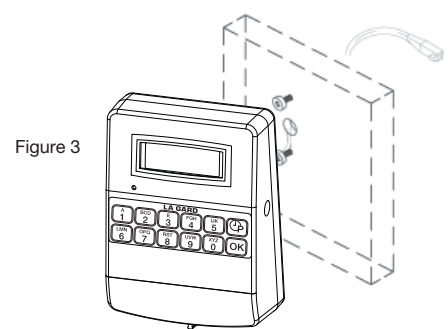

Figure 3
3. Feed the Entry Device cable through the spindle cable hole from the front of the safe door. (Figure 3)